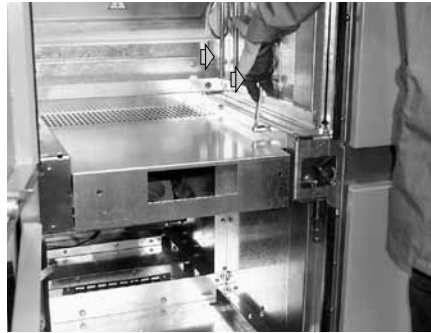

Fig. 26b
- loosen the two fixing screws (right side) of the circuit-breaker compartment panel (fig. 26b)